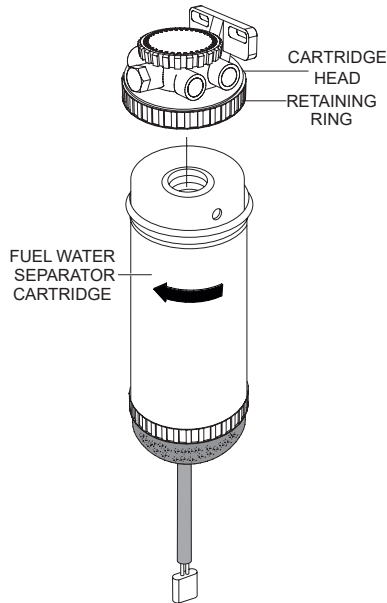

Figure 72. Fuel Water Separator
1. Use a filter wrench to remove the fuel water separator cartridge (Figure 72) from the cartridge head.